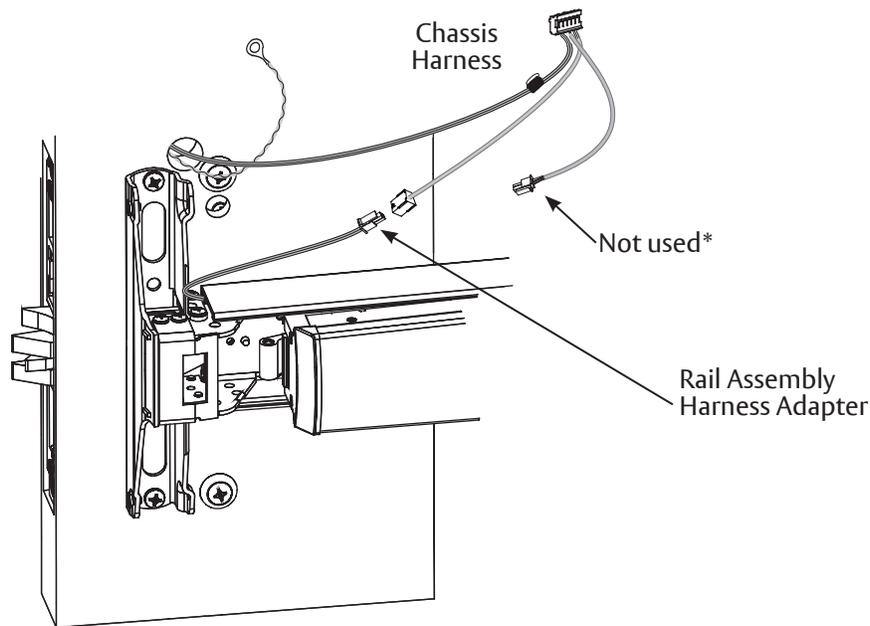

Figure 15
1. Connect motor harness adapter to chassis harness connector (Figure 15).